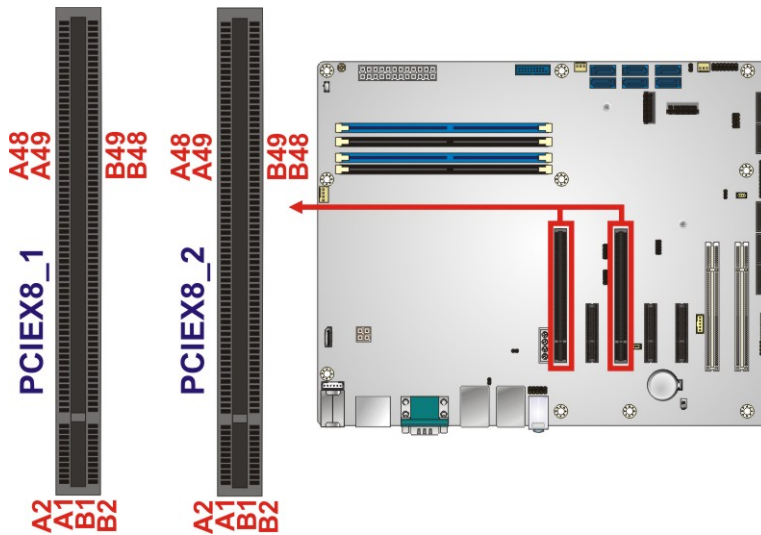

Figure 3-22: PCIe x8 Slot Locations
- CN Location:** **See Figure 3-22**